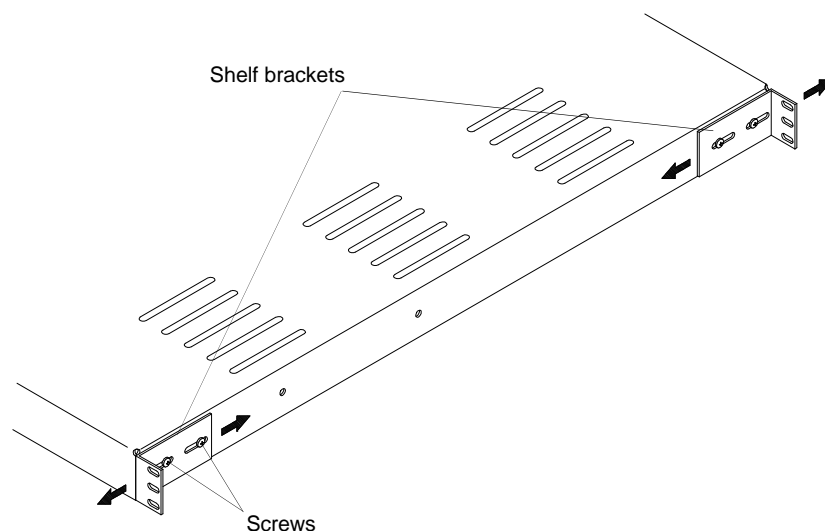

Figure 12
1. To adjust the Fixed Shelf, loosen the bracket screws, move the brackets, then re-tighten the screws. See figure 12.